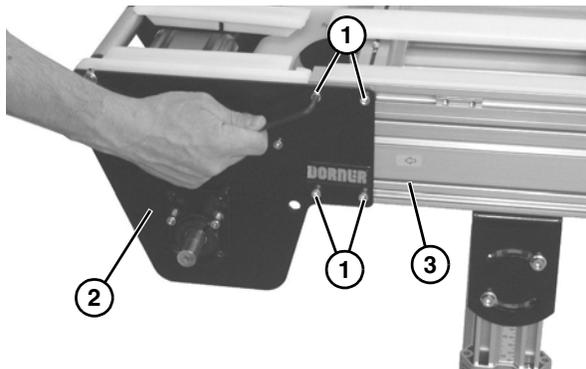

Figure 34
4. Loosen the four socket head screws (**Figure 34, item 1**). Repeat on opposite side.
5. Remove the drive tail assembly (**Figure 34, item 2**) from the frame (**Figure 34, item 3**).